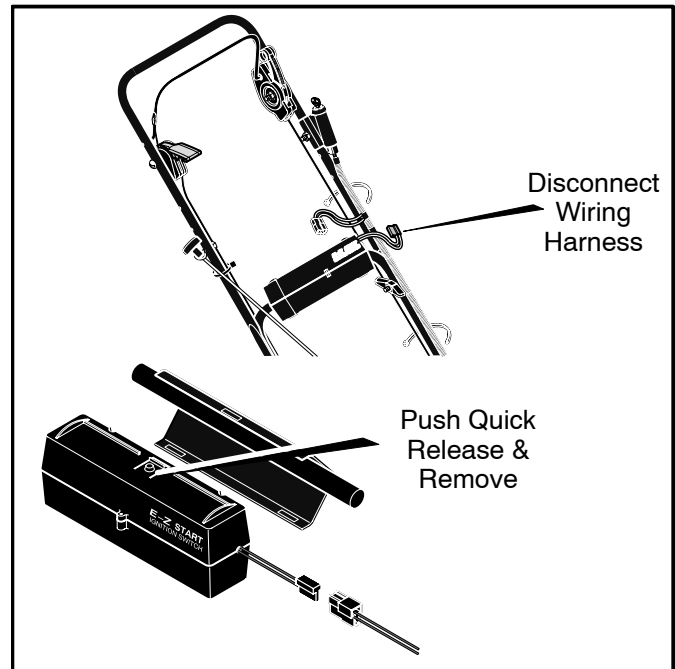

FIGURE 14: BATTERY REMOVAL & INSTALLATION
1. Disconnect wiring harness. (Figure 14)